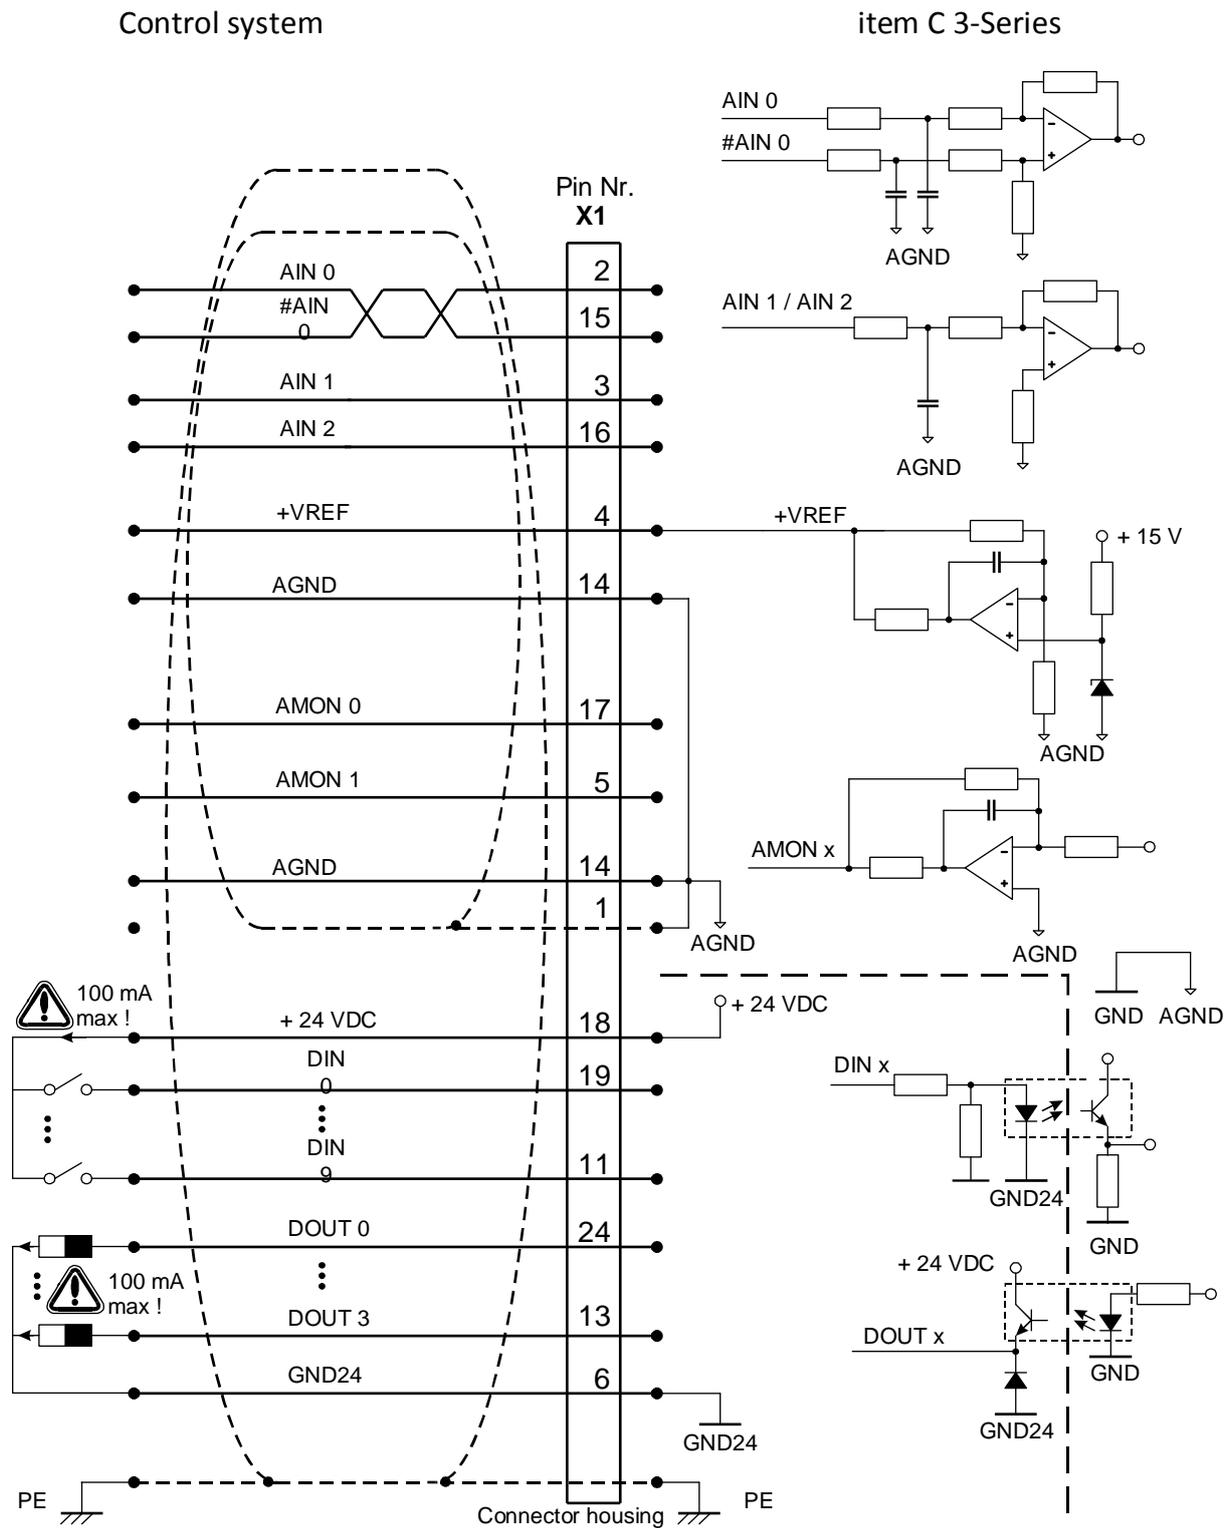

Figure 18: Basic circuit diagram of connector [X1]
The following *Figure 18* shows the operating principle of the digital and analogue inputs and outputs. The item Servo Positioning Controller C 3-Series is shown on the right and the control system connection on the left. The cable configuration is also shown.
- LAPP KABEL UNITRONIC LiYCY (TP); 25 x 0.25 mm2; Ø 10.7 mm
*Figure 18* shows the cable between the item Servo Positioning Controller C 3-Series and the control system. The cable that is shown has two cable shields.